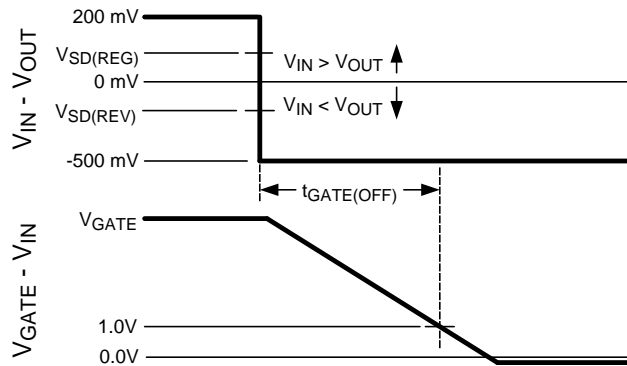

Figure 4. Gate Off Timing for Forward to Reverse Transition
(1) Measurement of V_{GS} voltage (i.e. $V_{GATE} - V_{IN}$) includes 1 M Ω in parallel with C_{GATE} .
(2) Time from V_{IN} - V_{OUT} voltage transition from 200 mV to -500 mV until GATE pin voltage falls to $V_{IN} + 1\text{V}$. See Figure 4.